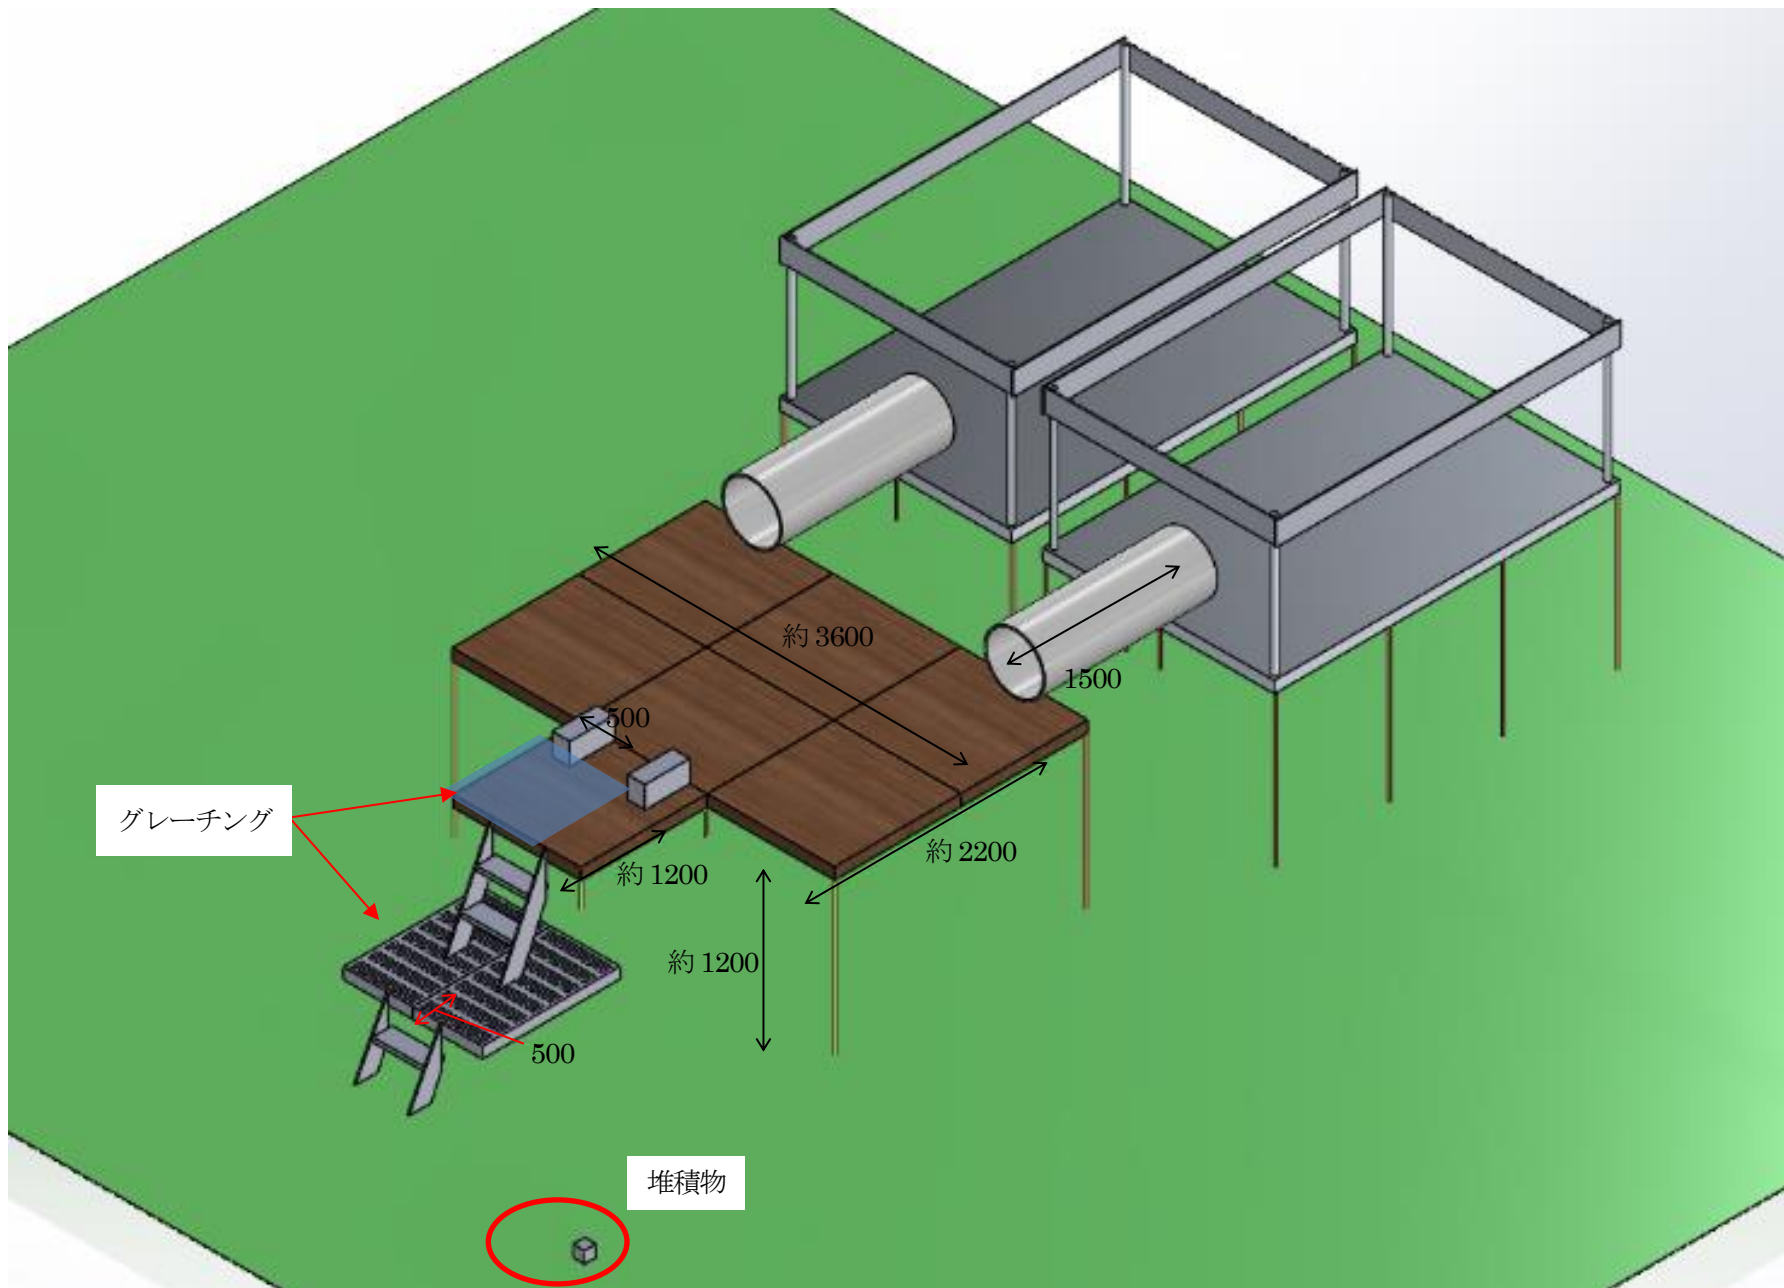

Fig. 3 Field
- ① It starts inside a pipe that mimics the X-1 Penetration and passes through the piping.
- ② The staircase descends through a 0.5-meter-wide narrow section to reach the floor.
- ③ The sediment is collected and returned to the starting point, the inside of the pipe, by the same route.
- ① An overview of the competition field is shown in Fig. 3.
- ② The size of the piping that simulates the X-1 penetration is  $\phi 600$  (VU pipe 600A,  $\phi 600 \times 1500$ ).
- ③ The starting position of the competition is in the piping, with the last part of the robot aligned with the last part of the piping.
- ④ A 0.5m narrow section is set in front of the staircase. (Concrete blocks are placed on both sides).